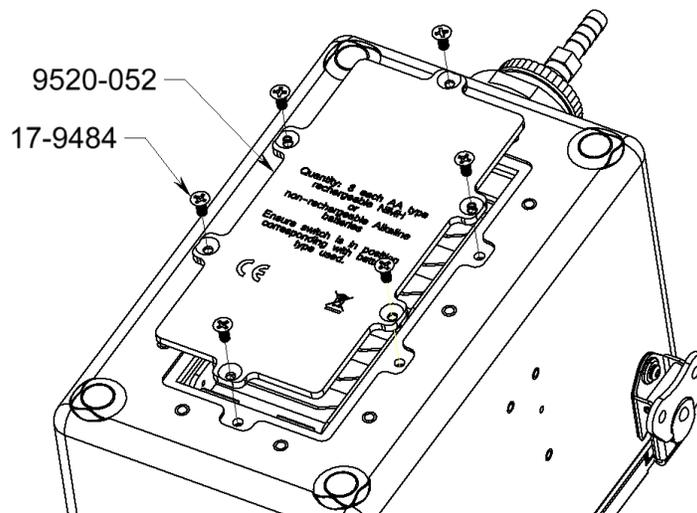
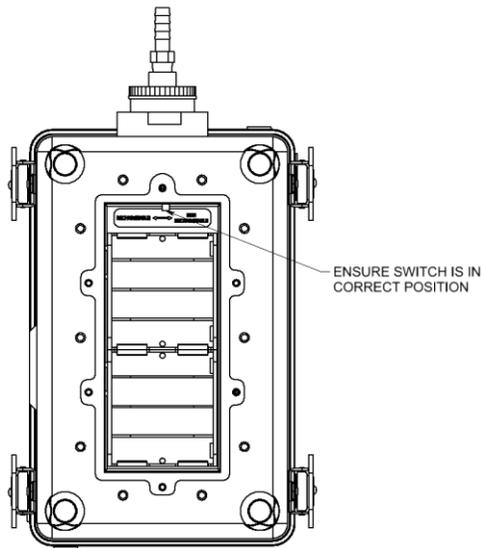

Figure 5-1. Battery Lid Removal
Figure 5-2. Battery Compartment.
5.2.1 Remove Batteries. Open the battery lid by removing the screws (Figure 5-1). Remove the 8 NIMH AA batteries from the compartment (see Figure 5-2).
5.2.2 Install Batteries Properly. Install 8 NIMH AA batteries into the compartment (see Figure 5-2), taking care to orient all batteries correctly. Note the (+) and (-) marks inside the battery holder. Match the battery polarity to these marks.